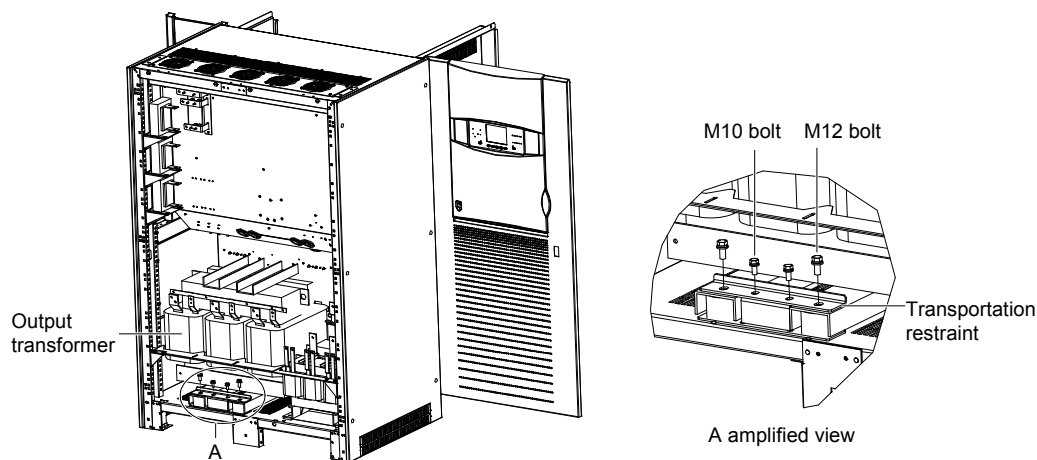

Figure 2 Removing the output transformer transportation restraints
2. Remove the back panel of the cabinet to reveal the output transformer, as shown in Figure 2. Retain the screws.
3. There is a transportation restraint respectively in the front and at the back at the bottom of the output transformer. The one at the back is shown in Figure 2. Remove the fixing bolts of the one at the back, including two M10 bolts in the middle and two M12 bolts at sides; then, remove the fixing bolts, including two M10 bolts in the middle and two M12 bolts at sides, of the transportation restraint in the front through the installation hole revealed in step 1.